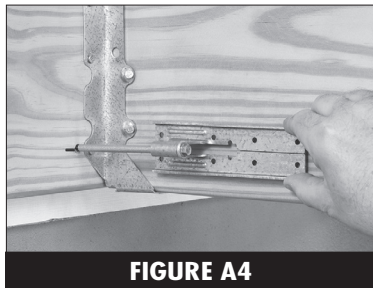

FIGURE A4
5. Slide the bracket over the screw and onto the side of the joist using the screw silhouette as a pass-through. (Figure A4)